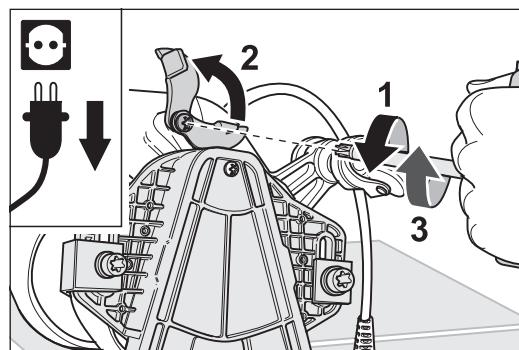

Fig. 38 Loosen the screw (1), turn the belt tightening plate away from the attachment (2) and retighten the screw (3).
- 3 Undo the screw of the belt tightening plate with the universal spanner (fig. 38, 1).
- 4 Turn the belt tightening plate away from the attachment (fig. 38, 2). and retighten the screw of the belt tightening plate (fig. 38, 3).